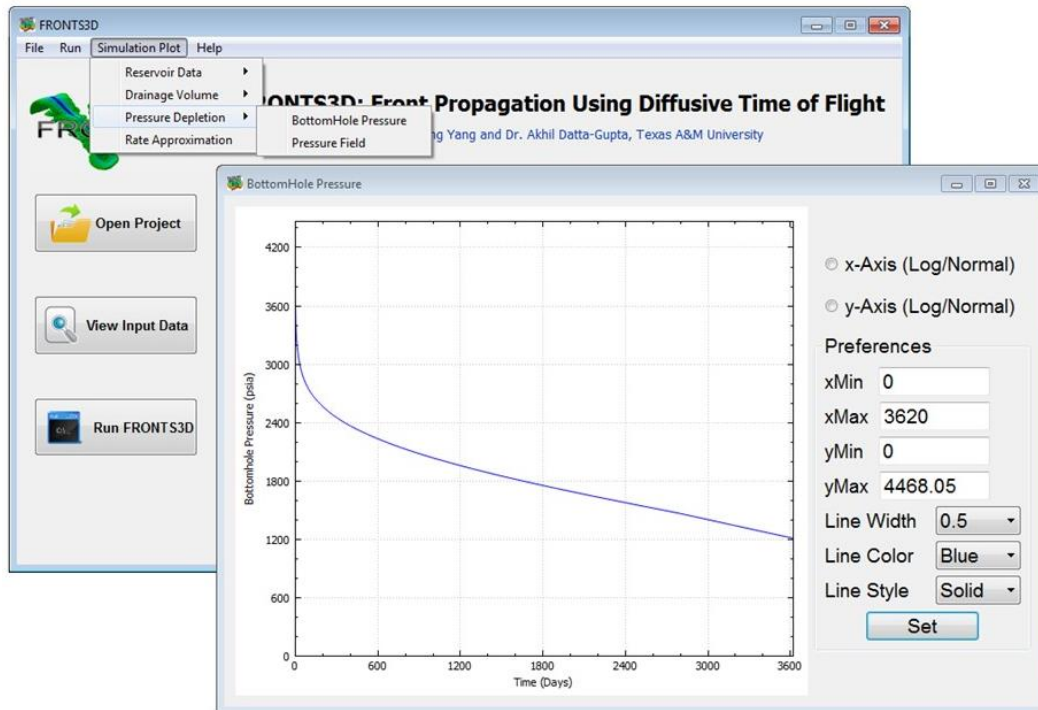

Figure 9. Select and View Pressure Depletion
- c. Click Simulation Plot → Pressure Depletion, you can view bottomhole pressure and pressure field. (**Figure 9**).